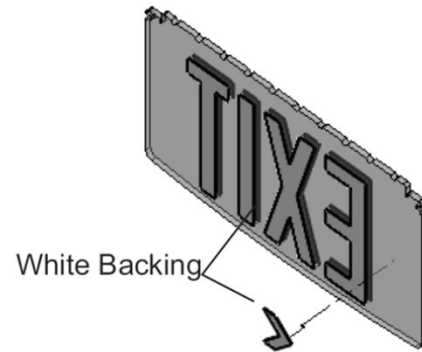

Figure 2
3. Remove the adhesive backing from the chevron(s) and adhere to the panel in the location determined by the template - *Figure 2*.